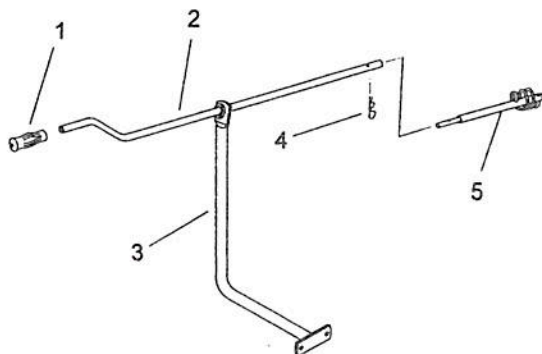

Figure 15
- e) Install 1/2 x 3" handle grip (fig. 15, item 1) on angling handle (item 2)
- f) Install the rotation handle (fig. 15, item 2) by sliding it through the grommet on support (item 3) and insert on the end of worm (item 5). Secure with 2.5mm hair pin (item 4).